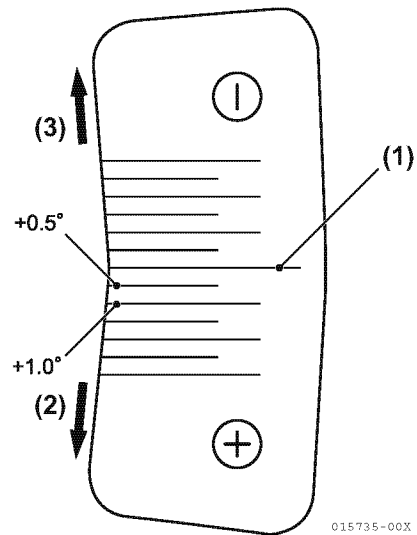

Figure 6-46
- If the difference between the timing index numbers is a positive (+) number, the fuel injection pump mounting position must be advanced (**Figure 6-46, (2)**) (rotated away from the engine) as compared to the “standard mark” (**Figure 6-46, (1)**) by the calculated positive (+) amount; adjust the fuel injection pump to the calculated value.
- If the difference between the timing index numbers is a negative (-) number, the replacement injection pump must be retarded (**Figure 6-46, (3)**) (rotated toward the engine) by the calculated negative (-) amount.
The above calculated difference indicates that the replacement fuel injection pump is to be installed at +0.5° (advanced) from the “standard mark” (**Figure 6-46, (1)**) on the timing sticker.